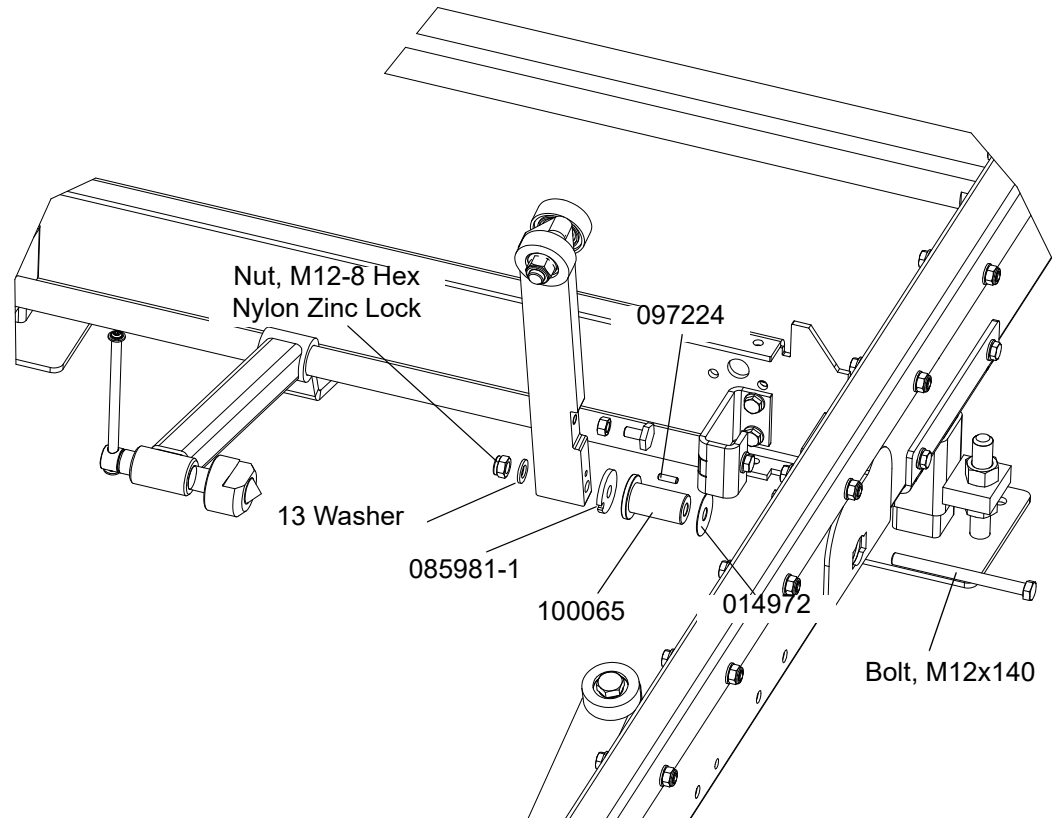

FIG. 2-7
7. Install the log side supports as shown in Figure 2-7. Tighten the nuts so that the side supports can be moved with little resistance. Adjust side support, See Section 6.11.
See figure 2-7.